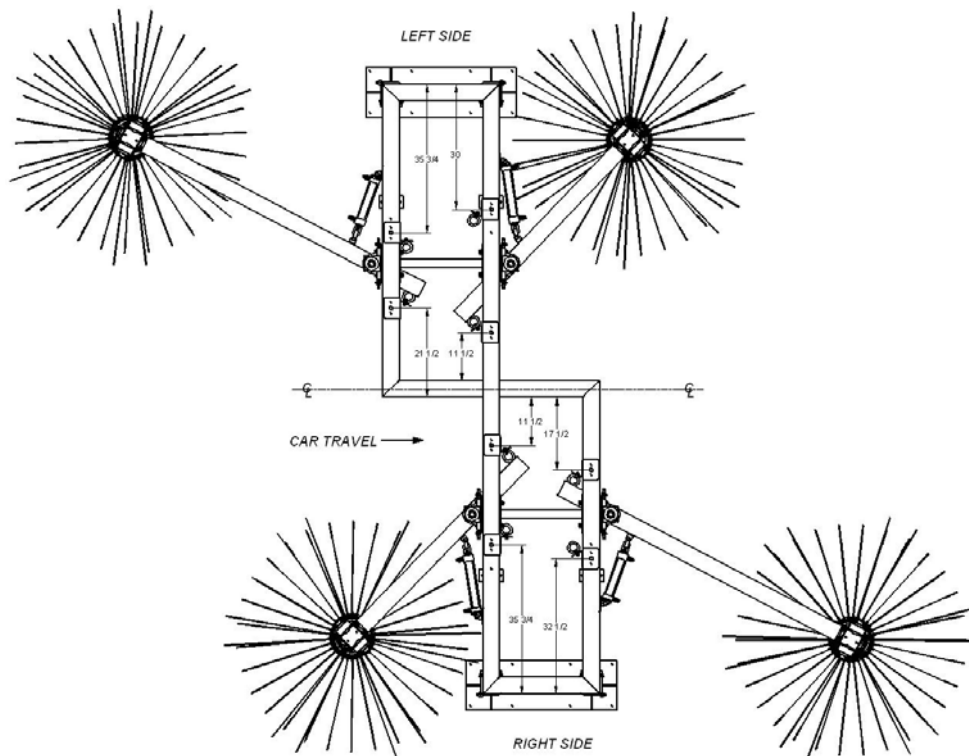

Figure 1-13. Dual Pack Flex Wrap in Retracted Position
6. Carefully raise the header assembly on top of the legs using a forklift. It is recommended that one person on each side hold the legs while header is placed on top. Refer to figure 1-13 and 1-14 to see how the header assembly is orientated according to car travel. **Note:** Before bolting the structure in place, it is imperative that never-seize be placed on all stainless steel bolt threads to prevent locking.
27. To test the bumpers, install them as shown in figure 1-13.